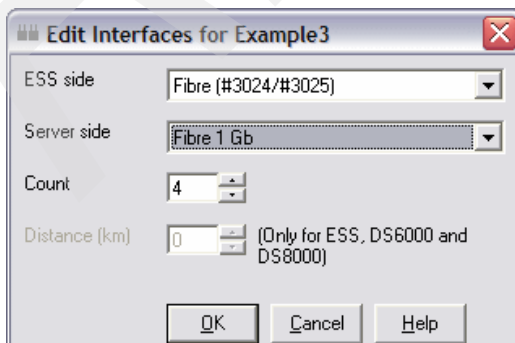

Figure 4-75 Current iSeries FC adapters
- f. In the Edit Interfaces window (Figure 4-75), enter the current number and type of iSeries FC adapters. In our example, we use four iSeries 2766 adapters, so we leave the default value of 4. However, for Server side, we change the type of adapters to **Fibre 1 Gb** to reflect the current adapters 2766.